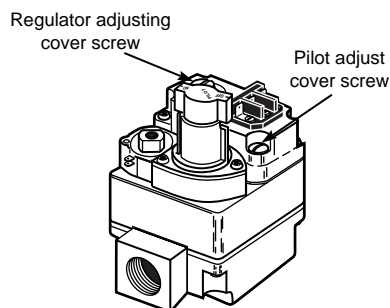

Figure 8. Pressure regulator adjustment
2. Remove "Reg. Adj." cover screw (see fig. 8).